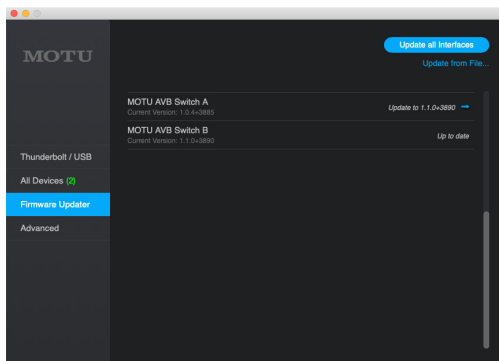

Figure 2-1: The MOTU AVB Switch in MOTU Discovery.
- 6 Click the *Firmware Updater* tab. You should now see your switch in the list of AVB devices on the network (Figure 2-1).
7 If your AVB Switch says *Up to date* as shown in Figure 2-1 for switch B, then the switch has the latest firmware installed already.
8 If, however, the note next to the switch says *Update to x.xx* as shown in Figure 2-1 for switch A, click the blue arrow to update to the latest firmware version.